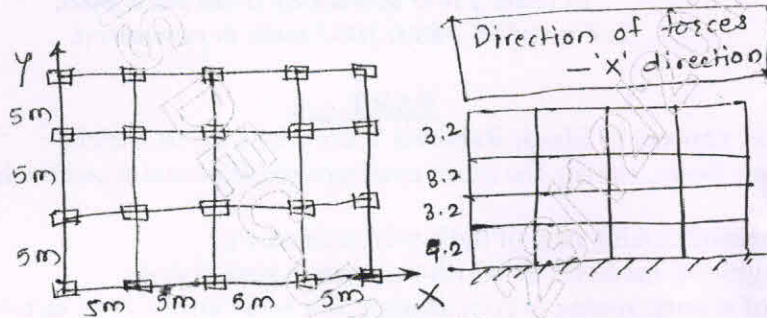

Fig.Q6
- 6 For a four storeyed RCC office building located in zone 'V' and resting on hard rock, compute the seismic forces on the structure as per IS 1893-2002 equivalent static procedure. Height of first storey is 4.2 m and the remaining three stories are of height 3.2 m each plan dimensions (length and width) of the structure are 15m × 20m. The RCC frames are in filled with masonry. Refer Fig.Q6.